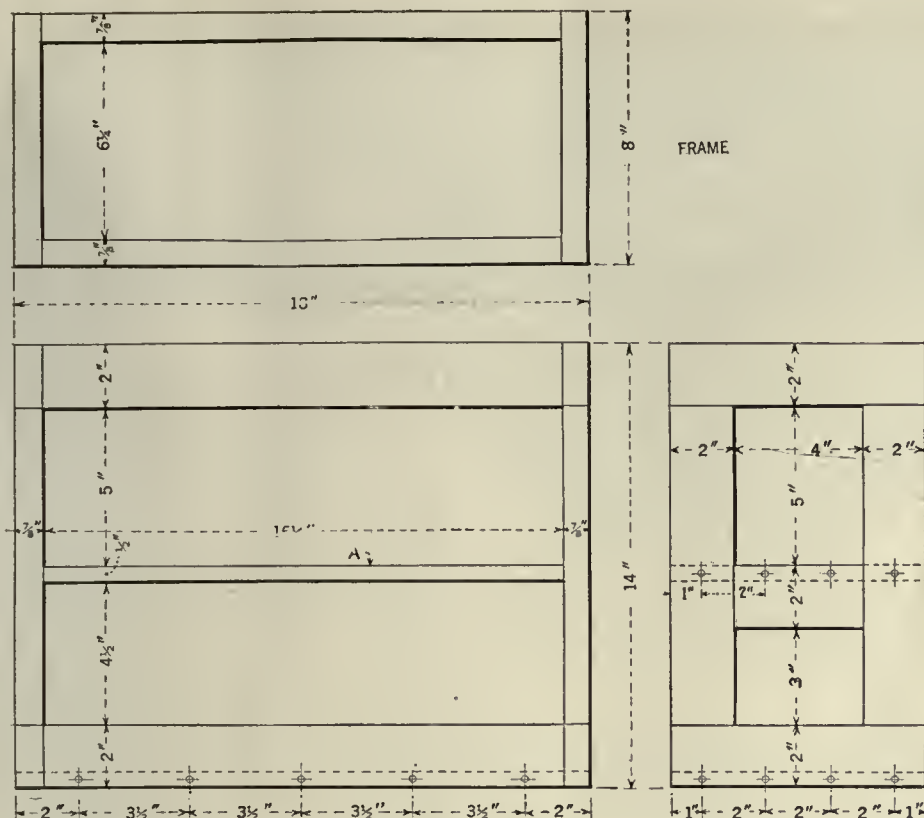

FIG. 11
IN THE actual physical layout of the transmitter considerable care was taken to keep the size of the unit as small as possible so as to make it easily portable. The method of construction will be evident from the various photographs in this article. The transmitter was built around a wooden framework having the dimensions given in Fig. 11. The tube sockets, coils, fixed condensers, grid leak, radio-frequency choke coils, and filament bypass condensers, were mounted on the shelf "A," Fig. 11. On the floor of the framework are mounted the two dry cells for the microphone, the Heising choke coil, and the modulation transformer. Extending from the rear of the shelf is a terminal strip holding nine binding posts. At the end of the transmitter is another small strip on which are mounted two additional binding posts for the antenna and counterpoise connections.
- (1) Assemble the wooden frame in accordance with the data given in Fig. 11. Do not fasten the shelf very tightly.